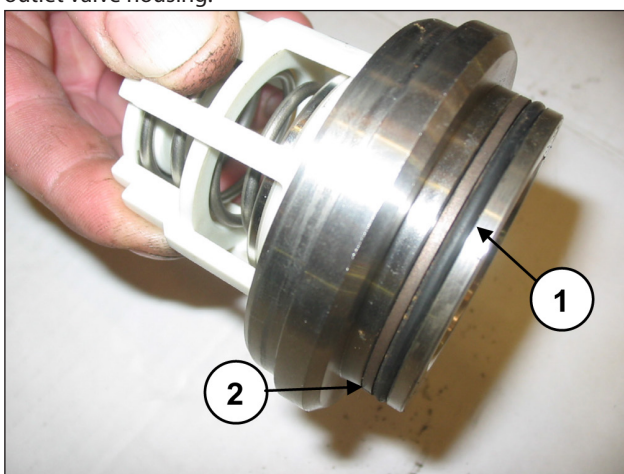

Fig. 123
Fit the O- ring, exploded view pos. 5 (pos. ①, Fig. 123) and back-up ring, exploded view pos. 15 (pos. ②, Fig. 123) on the outlet valve housing.